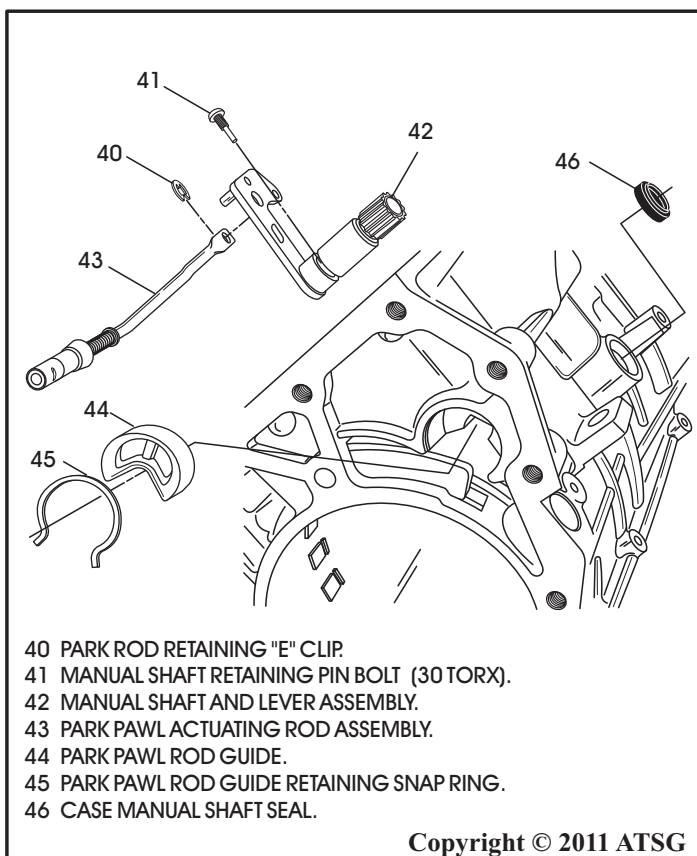

Figure 56
49. Remove and discard the manual shaft seal, as shown in Figure 56.